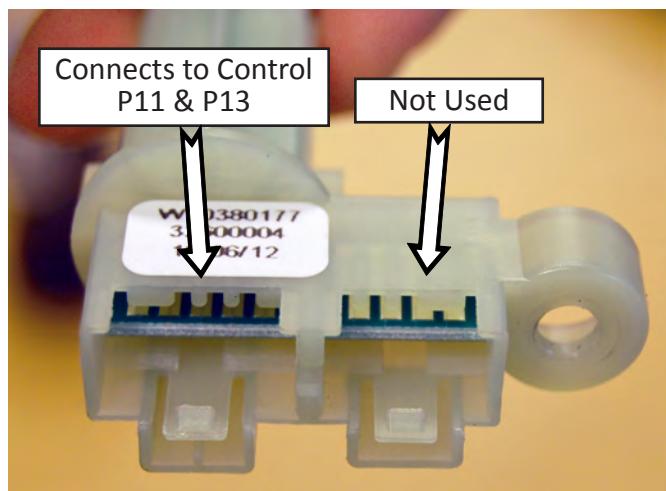

Figure 2
4. Lift out and remove from sump, see figure 2.